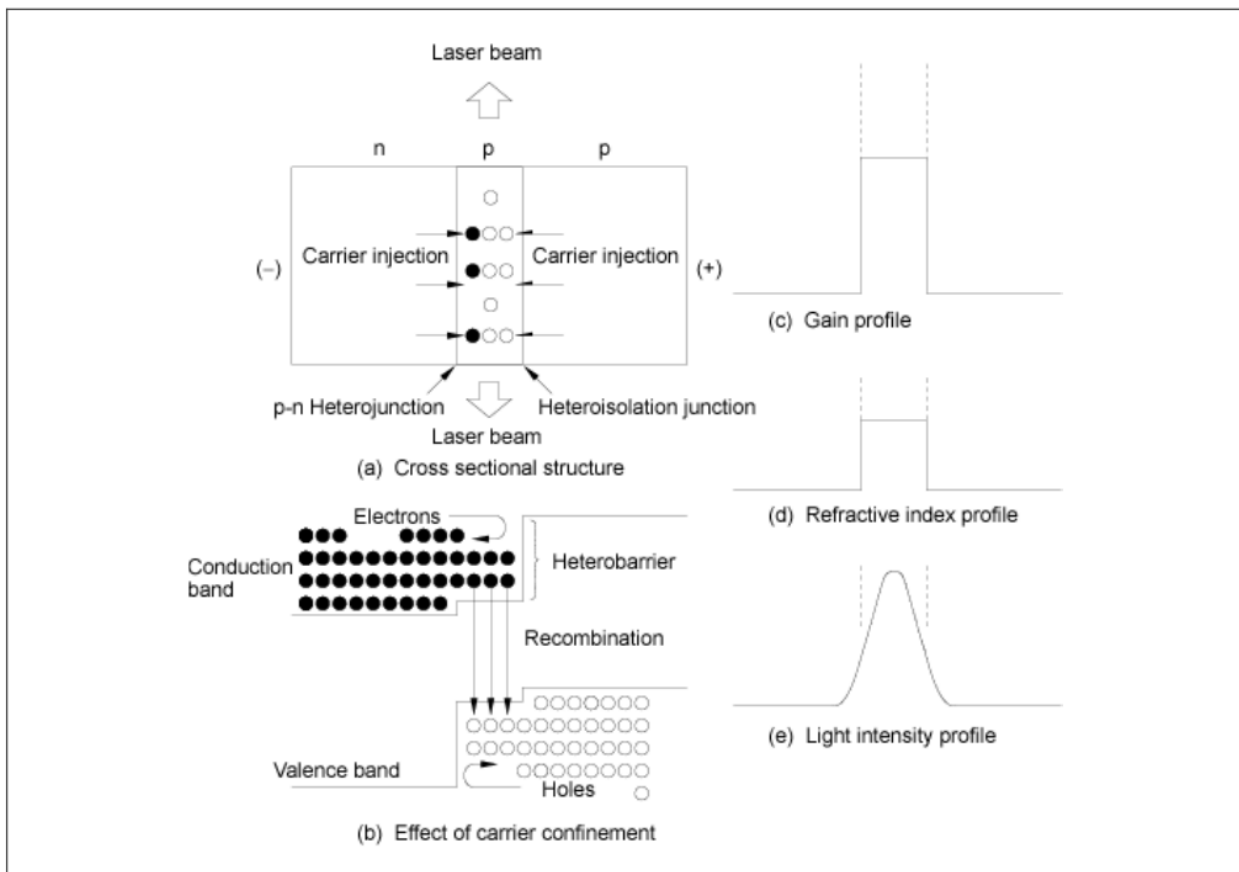
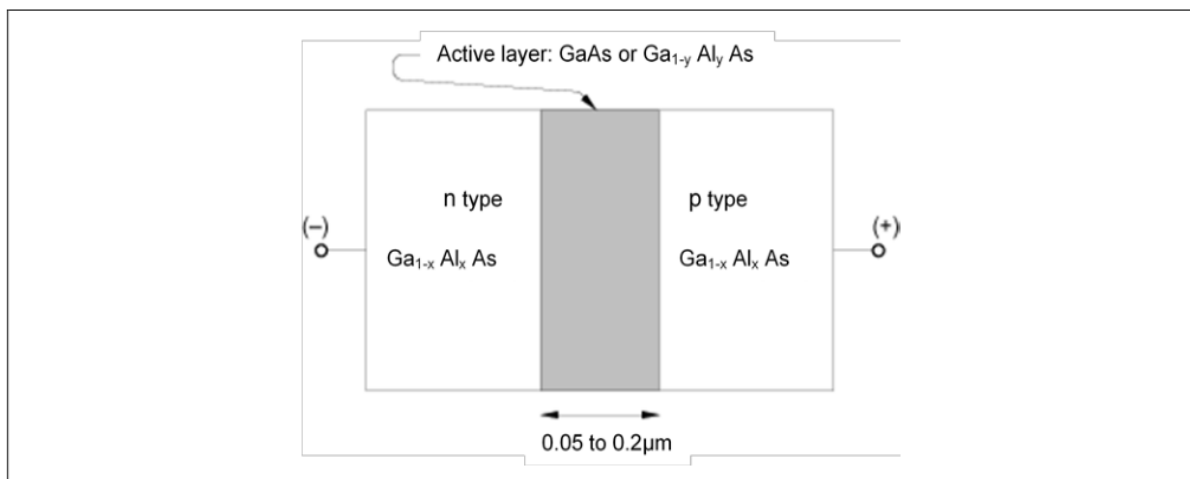

Figure 1 Operation Principles of Double-hetero junction LD
Figure 2 GaAlAs DH Structure LD
The p-type active layer, in which stimulated emission enforces optical amplification (figure 1 (a)), is processed first. The p-n junction is made here for injecting minority carriers (the p-n hetero junction). With forward current applied to the junction, electrons in n-type region are injected into p-type region. With a p-type semiconductor of wide band gap on the other side of the p-n junction (hetero isolation junction), the injected carriers are mostly confined within the p-type active layer. This carrier confinement makes population inversion occur easily, increasing the light emission intensity.
The active layer of the GaAlAs LD is made of GaAs or Ga_{1-y}Al_yAs (figure 2). The thickness of the layer is approximately 0.05 to 0.2μm. P-type(Ga_{1-x}Al_xAs) and n-type(Ga_{1-x}Al_xAs) ($x > y$) sandwich the active layer (x and y here are the mixture ratio of Aluminum). When x is 0.3, the band gap of the sandwich layers is 1.8 eV, and there is a balance of 0.4 eV against 1.4 eV of GaAs active layer. When forward bias is applied here, the hetero barrier confines carriers within the 0.05 to 0.2μm active layer, carrier population is inverted and the gain increases. The refractive index of the GaAs is higher by some percent than those of Ga_{1-x}Al_xAs, which confines the generated light within the GaAs active layer. The light penetrating into the Al_xAs layer is not absorbed because of its wide band gap. So laser oscillates effectively there (figure 1). A thinner active layer (called multiple quantum well structure) can make do with less threshold current density to achieve laser oscillation. At present, a threshold current density of as low as 1 to 2 kA/cm² can be achieved, realizing a stable continuous oscillation (CW) at room temperature.